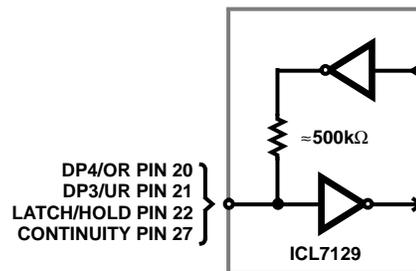

FIGURE 6. “WEAK OUTPUT”
Four pins of the ICL7129 can be used as either inputs or outputs. The specific pin numbers and functions are described in the Pin Description table. If the output function of the pin is not desired in an application it can easily be overridden by connecting the pin to V+ (HI) or DGND (LO). This connection will not damage the device because the output impedance of these pins is quite high. A simplified schematic in Figure 6 shows there is approximately 500kΩ in series with the output driver, the pin (when used as an output) can only drive very light loads such as 4000 series, 74CXX type CMOS logic, or other high input impedance devices. The output drive capability of these four pins is limited to 3µA, nominally, and the input switching threshold is typically DGND + 2V.